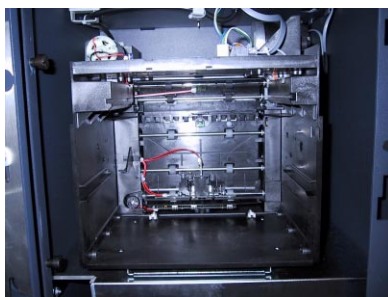

Figure 7. Dispenser on swivel mount in cassette service position.
6. Refer to Figure 7. Place the dispensing mechanism on the turntable in the cassette service position (with the opening for the currency and reject cassettes facing to the front as you look into the security cabinet).